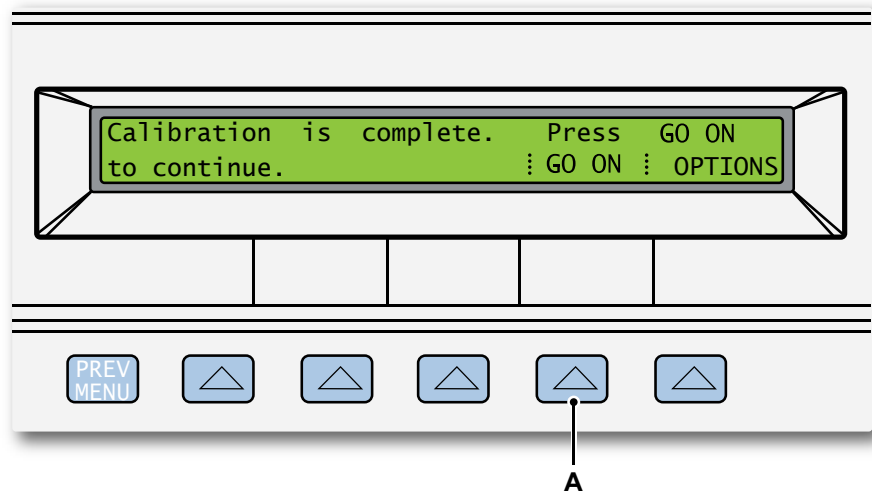

Figure E.19: Fluke 5522A Calibration is completed
- 9 After the zeroing routine is completed (this take several minutes), select the **GO ON** button to return to normal operation mode of the instrument (see Figure E.19).